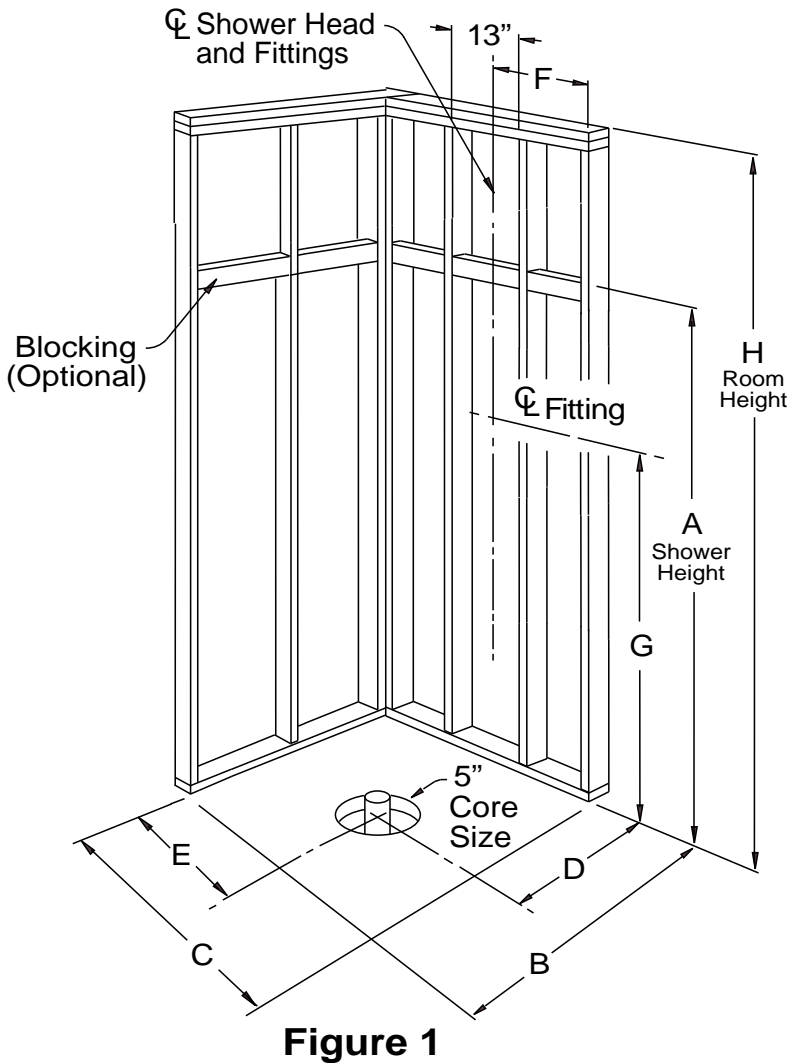

Figure 1
2. Review Figures 1 and 2 to make sure alcove is of proper size. If a fire rated alcove is required, approved wall board must be installed prior to unit installation. Access to drain and supply connections should be provided so that these connections may be made after the unit has been installed. Framing alcove must reflect interior dimensions on diagram to permit installation of unit. Note in diagram the required opening in the floor to provide clearance for the drain trap and fitting connections.